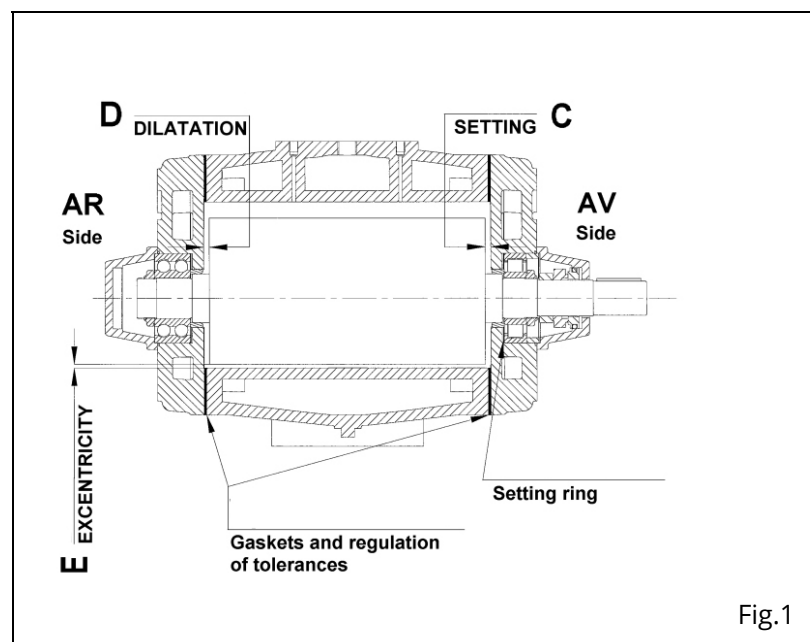

Fig.1
- Eccentricity (figure.1) letter (E) - centring
- Locking » (C)
- Expansion » » (D)